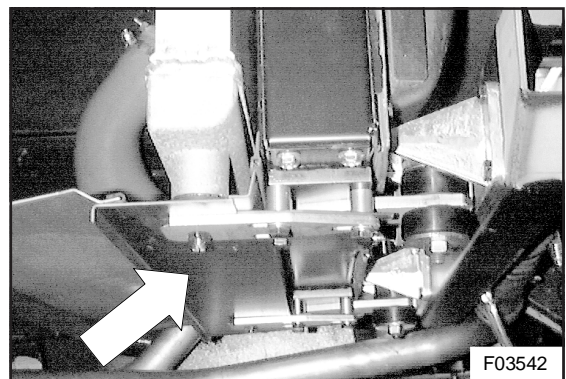

Figure 27: Intercooler bottom plate
29. Remove intercooler bottom plate (see Figure 27).